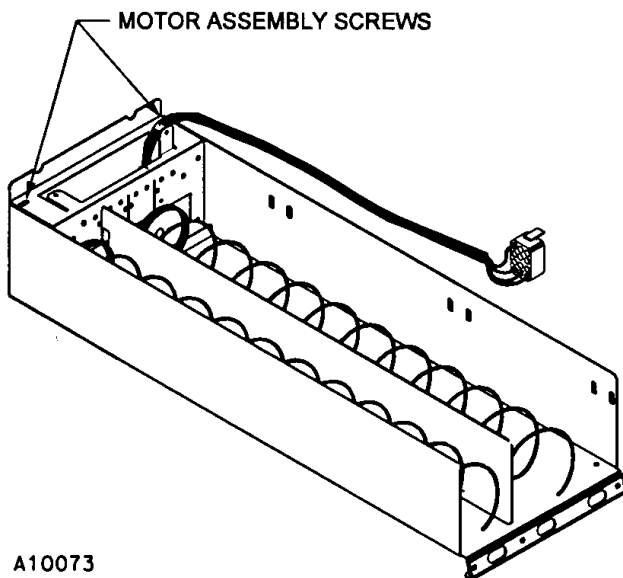

Figure 5. GF12 II Motor Mount Assembly
2. Remove the two screws from the top of the motor assembly. See Figure 5.
7. Reinsert the two screws into the top of the motor assembly. See Figure 5.
2. Remove motor assembly as described in Retiming GF12 II. See Figure 5.